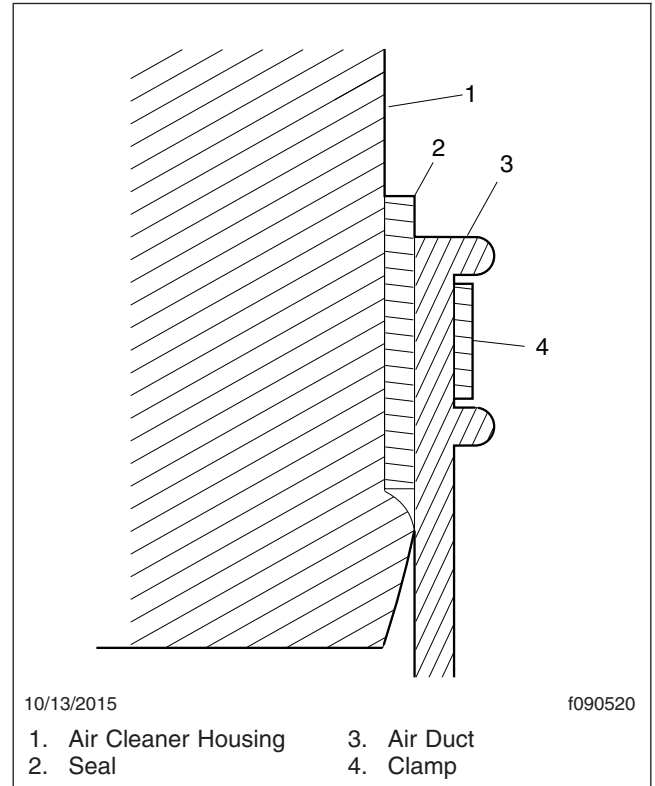

Fig. 4, Installation, Air Intake Seal and Housing
4. Apply P-80® Emulsion (or an equivalent lubricant) to the seal and base of housing to help install the housing into the duct. See Fig. 4.
8. Apply P-80® Emulsion (or an equivalent lubricant) to the seal and base of housing to help install the housing into the duct. See Fig. 4.